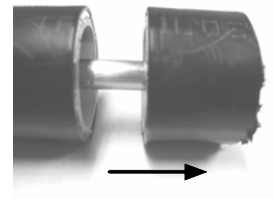

Figure 2
- 2) Cut **0.75" (1/2", 5/8" & 7/8" cables)** of outer conductor and jacket, using tube cutter. Stop cutting when aluminum is cut through. Do not crush cable end. **Cut** through the dielectric tube using knife-box cutter. Remove material (Figure 2). (Tools required: Tube Cutter and Knife-Box Cutter)